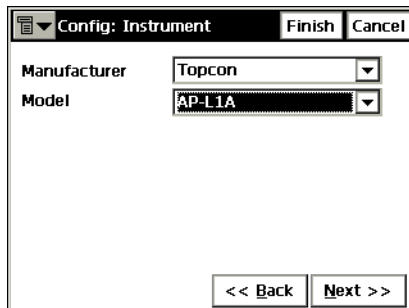

Figure 3-47. Config: Instrument
3. In the **Config: Instrument** screen, enter the manufacturer and model of the device, then tap **Next** (Figure 3-47). Note that the models shown in the list correspond to the chosen type of survey. To emulate a real survey, select Manual Mode. In this mode, no measurements are performed, all the data is entered manually.